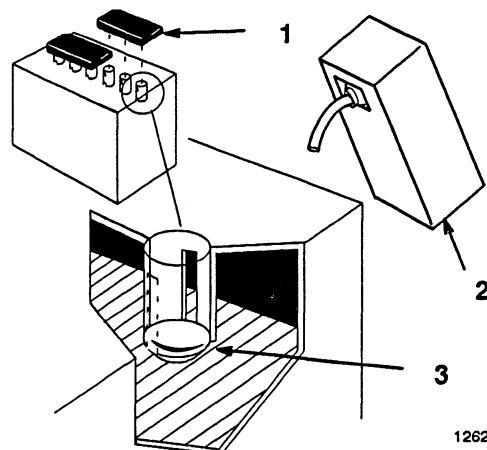

Figure 5
2. Remove filler caps from the battery. Slowly pour electrolyte into each cell until the electrolyte level is up to the lower part of the tube (Fig. 5).
5. Slowly pour electrolyte into each cell until the level is once again up to the "UPPER" line on the battery case (Fig. 5) and install covers.